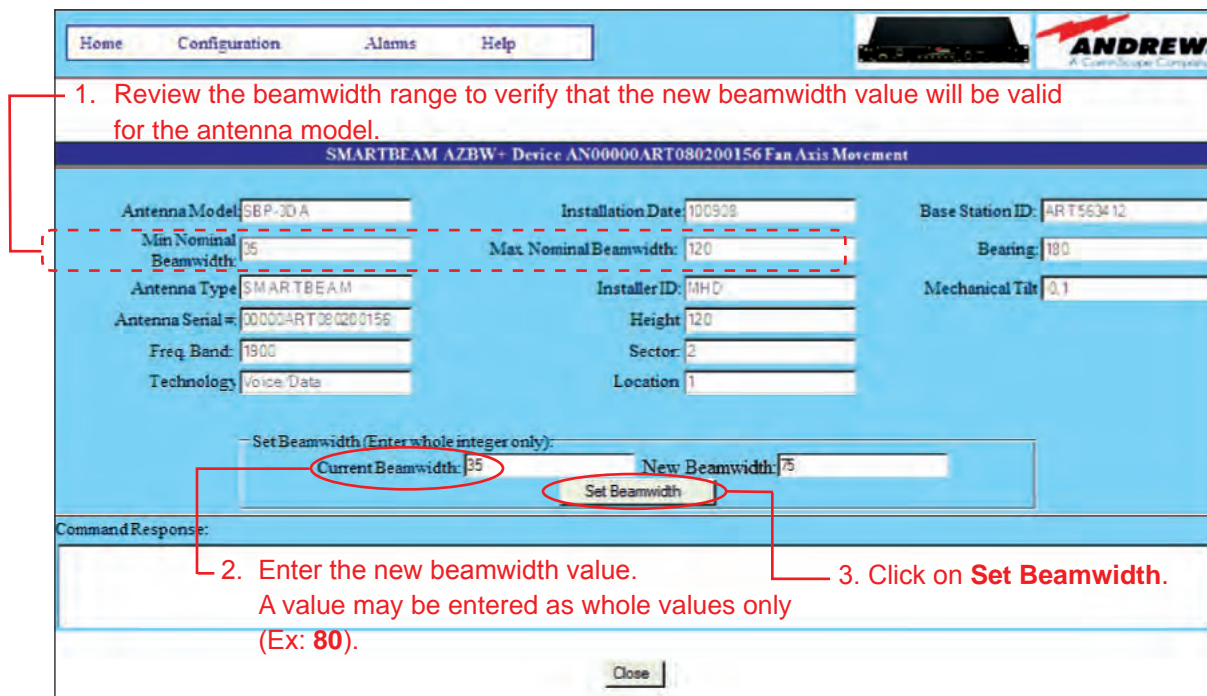

Figure 21-2. Changing Beamwidth Setting For Single Antenna.
The **Fan Axis Movement** screen shown in Figure 21-2 displays the information that was previously configured for the device. This information may be used as a reference to help determine the new beamwidth setting. Note that only movement changes may be made from this screen. Any changes needed to be made to the configuration for the device must be done from the **Device Configuration** screen as discussed in Section 12.
3. Enter the new beamwidth for the device in the **New Beamwidth** field. Note that the allowed range of values is displayed in the **Min Nominal Beamwidth** and **Max Nominal Beamwidth** fields in the top part of the screen. Any value within this range may be entered. Values may be entered as whole degrees only. (Figure 21-2).